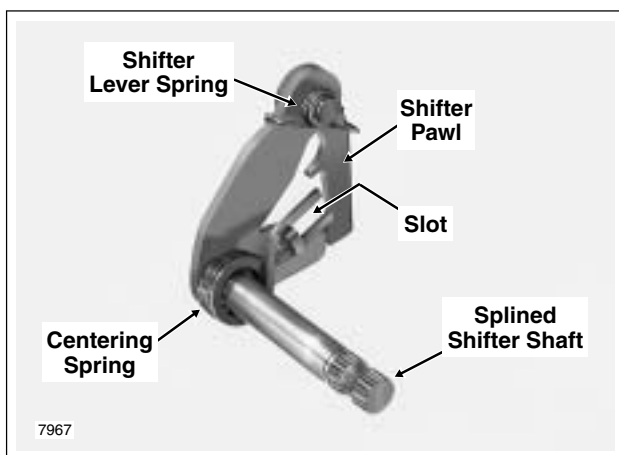

Figure 7-43. Shifter Pawl Assembly
5. Using a T50 TORX drive head, turn the centering screw out until it clears the centering spring slot of the shifter pawl assembly. Remove the retaining ring and flat washer from the splined end of the shifter shaft. See Figure 7-43. Push on end of shaft to free shifter pawl assembly from transmission case.